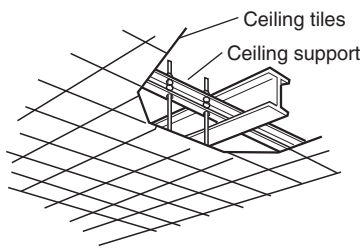

Fig. 3-38
- Use existing ceiling supports or construct a suitable support (Fig. 3-38).